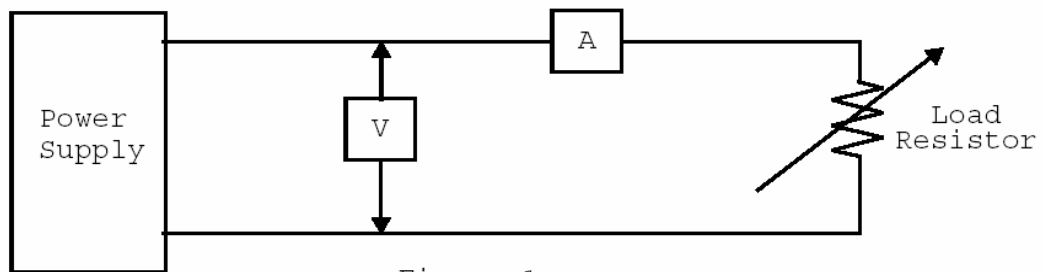

Figure 1.
- L-1. Determine the V-I characteristics of a regulated DC Voltage supply with its output voltage set at 20 volts (no-load) and its short-circuit current limit set at 80 mA (see Figure 1). Remember to take more data points whenever the variable being plotted varies rapidly. Also measure VAC at the terminals of the power supply at a load current which is 70 percent of the current limit.